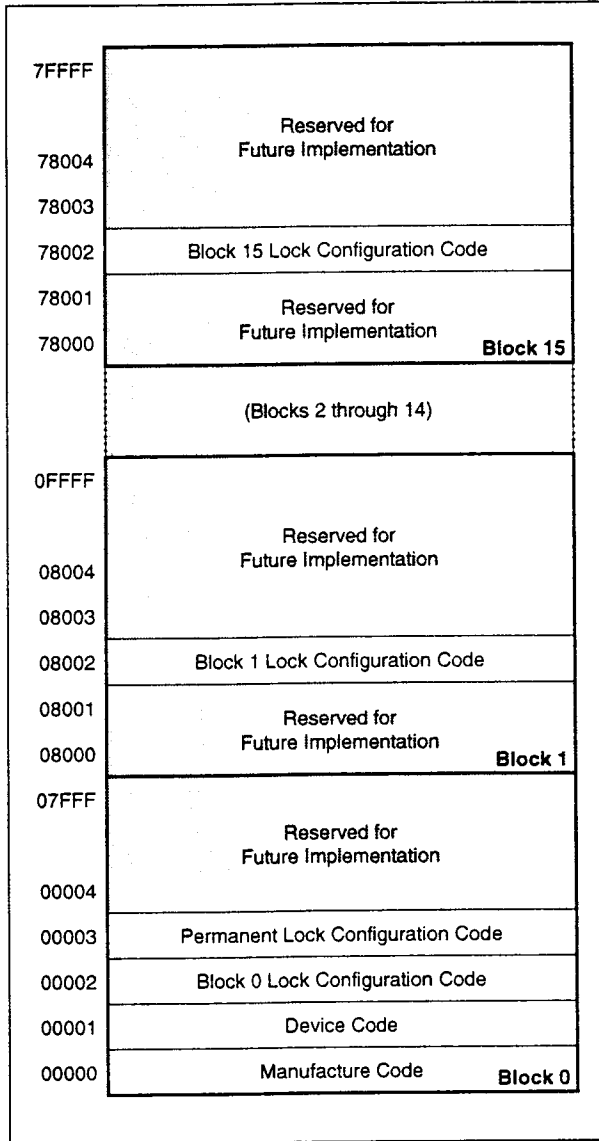

Figure 4. Device Identifier Code Memory Map
The read identifier codes operation outputs the manufacture code, device code, block lock configuration codes for each block, and the permanent lock configuration code (see Figure 4). Using the manufacture and device codes, the system CPU can automatically match the device with its proper algorithms. The block lock and permanent lock configuration codes identify locked and unlocked blocks and permanent lock-bit setting.
| Read Identifier Codes | 8 | V _{IH} or V _{HH} | V _{IL} | V _{IL} | V _{IH} | See Figure 4 | X | Note 5 | V _{OH} |
IA = Identifier Code Address: see Figure 4.
The identifier code operation is initiated by writing the Read Identifier Codes command. Following the command write, read cycles from addresses shown in Figure 4 retrieve the manufacture, device, block lock configuration and permanent lock configuration codes (see Table 5 for identifier code values). To terminate the operation, write another valid command. Like the Read Array command, the Read Identifier Codes command functions independently of the V_{PP} voltage and RP# can be V_{IH} or V_{HH} . Following the Read Identifier Codes command, the following information can be read:
1. X selects the specific block lock configuration code to be read. See Figure 4 for the device identifier code memory map.